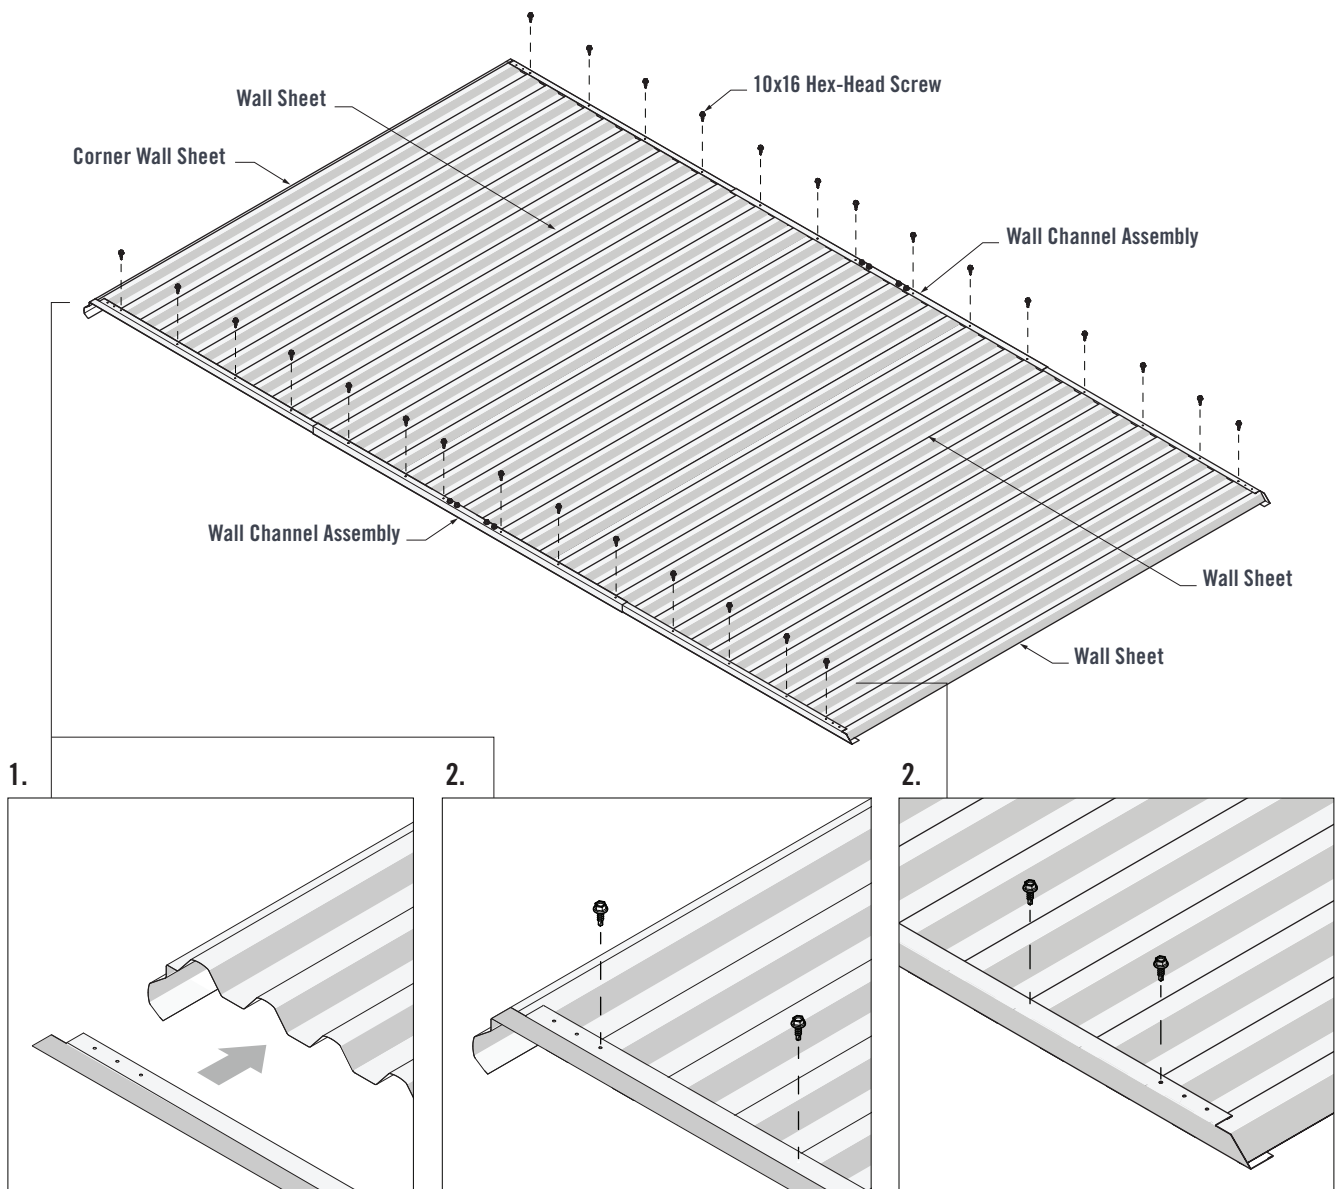

FIGURE 3.2
1. Fit the Wall Channel Assembly over the lapped Wall Sheets. The end of the Wall Channel should fit up against the end of the Corner Wall Sheet (Figure 3.2).
2. Wall Channels have three pilot holes in each end. Fasten through the third pilot hole of both Wall Channel ends and into the Wall Sheet crests. Fasten through the Wall Channel Assemblies and into every third Wall Sheet crest using twelve 10x16 Hex-Head Screws in each Wall Channel Assembly (Figure 3.2).